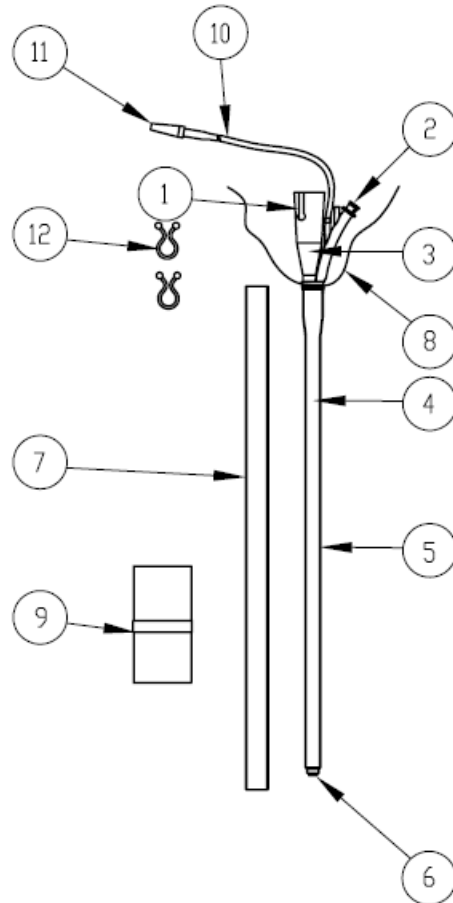

Figure 3-3: BVX-2.8*, BVX-2.1 and BVX-1.5 Slide-On® EndoSheath® Technology
- The **BVX-2.8 Slide-On® EndoSheath® Technology*** (see page 2) (Figure 3-3 on page 14). This Sheath contains a 2.8mm (8.4Fr) channel through which suction can be used, or accessory instruments can be inserted.
- The **BVX-2.1 Slide-On® EndoSheath® Technology** (Figure 3-3 on page 14). This Sheath contains a 2.1mm (6.3Fr) channel through which suction can be used, or accessory instruments can be inserted.
- The **BVX-1.5 Slide-On® EndoSheath® Technology** (Figure 3-3 on page 14) has a 1.5mm (4.5Fr) channel that supports suction, but cannot accommodate the insertion of accessory instruments.
The **BVX-2.8*, BVX-2.1** and **BVX-1.5 Slide-On® EndoSheath® Technology** shown in Figure 3-3 below is a sterile, disposable barrier for the Cogentix Medical **BRS-5100** Flexible Video Bronchoscope. The Sheath isolates the Bronchoscope from contact with patient fluid and material during the procedure.